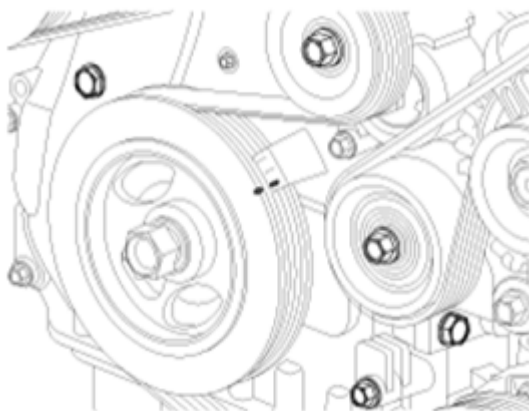

Fig. 8: Identifying Mark On Pulley
3. Remove the service hole bolt (A) of the timing chain cover. Refer to **Fig. 8**
4. Insert the SST (A) (09240-2G000) in the service hole of the timing chain cover and release the ratchet.